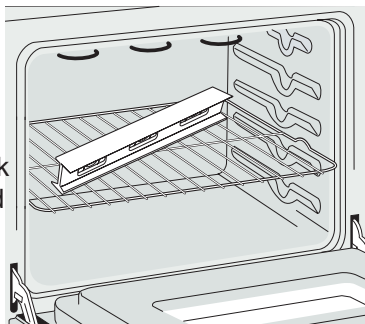

Figure 12
1. Install an oven rack in the center of the upper oven (see Figure 12).